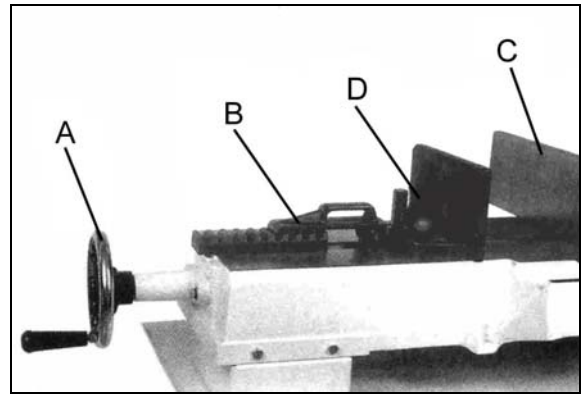

Fig. 10
1. Turn vise handwheel (A – Fig.10) 1/2 turn counter-clockwise.
2. Move rack block (B – Fig.10) to desired location by sliding along the bed. Place the rack block onto the rack.
1. Loosen bolts and move vise jaw (C – Fig.10) to desired location.
3. Adjust the movable vise parallel to the fixed vise by loosening bolt (D – Fig.10) adjusting to parallel and tightening bolt.